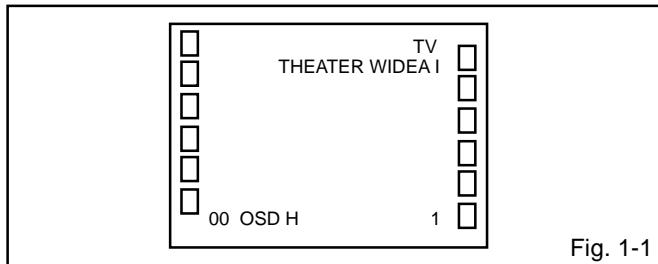

Fig. 1-1
1. In the condition of NO indication on the screen. Press the VOL. DOWN button on the set and the Channel button (9) on the remote control for more than 2 second to appear the adjustment mode on the screen as shown in Fig. 1-1.
4. Activate the adjustment mode display of Fig. 1-1 and press the channel button (01) on the remote control to select "CUT OFF".
4. Activate the adjustment mode display of Fig. 1-1 and press the channel button (24) on the remote control to select "R.BIAS".
6. Adjust the VOL. UP/DOWN button on the remote control to whiten the R.BIAS(C), G.BIAS(C), B.BIAS(C), R/G.DRV(C), B/R.DRV(C), R.BIAS(W), G.BIAS(W), B.BIAS(W), R/G.DRV(W) and B/R.DRV(W)" at each step tone sections equally.
3. Activate the adjustment mode display of **Fig. 1-1** and press the channel button **(00)** on the remote control to select "OSD H".
6. Activate the adjustment mode display of **Fig. 1-1** and press the channel button **(02)** on the remote control to select "H.POSI".
9. Activate the adjustment mode display of **Fig. 1-1** and press the channel button **(04)** on the remote control to select "H. SIZE".